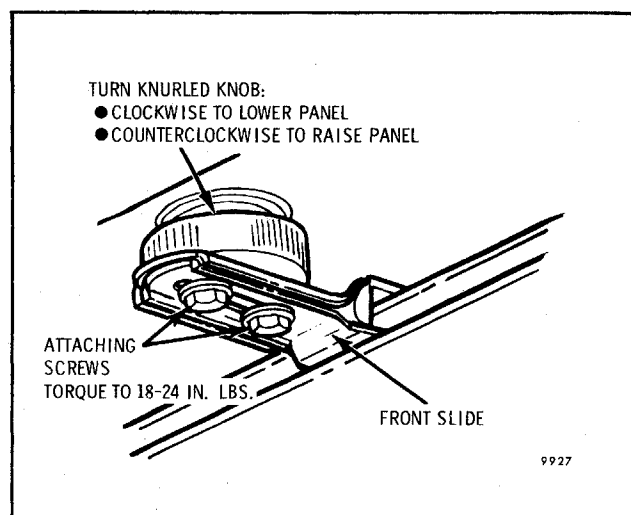

Fig. 8-91-Front Height Adjustment
2. Loosen both front slide retaining screws (Fig. 8-91).